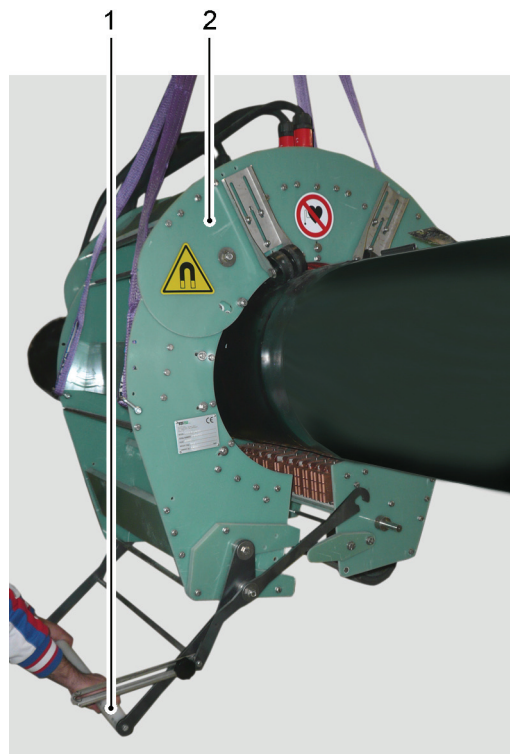

Figure 6.23 - Coupling of the contacts for the (knife) turns' closing
- 5) By acting both from the handle side (see Figure 6.23/1) and from the opposite one, push the two shoulders of the clamp coil (2), until the contacts for the (knife) turns' closing get mutually coupled.